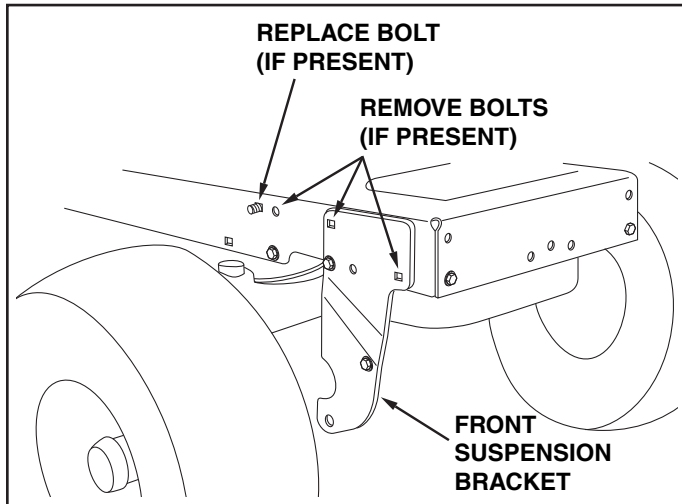

FIGURE 20 RIGHT SIDE VIEW
If your tractor resembles figure 20, start with step 21.
STEP 21: (SEE FIGURE 20)
- If a bolt is present in the fourth hole, replace it with a 5/16" x 1" carriage bolt (J) without a nut. The bracket fastened to inside of frame must remain in place.